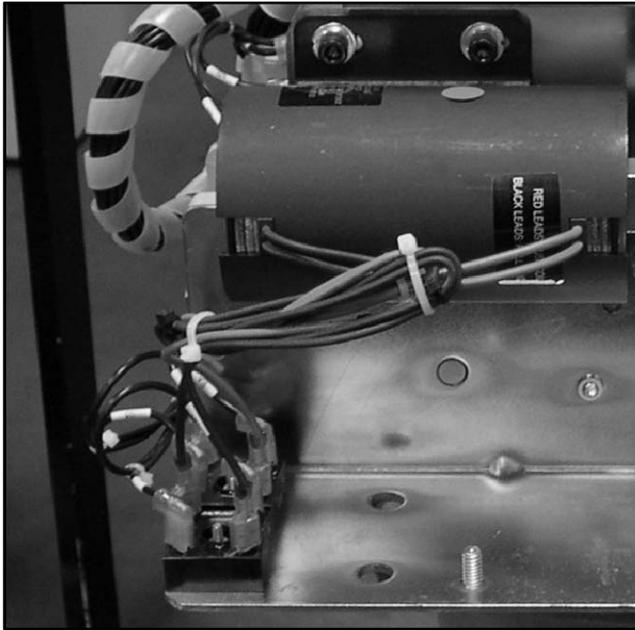

Figure 5-20 Rectifier Fast-On Connectors (contactor shown on the bench)
- Remove the DC fast-on connections from the rectifier terminals. See Figure 5-20.